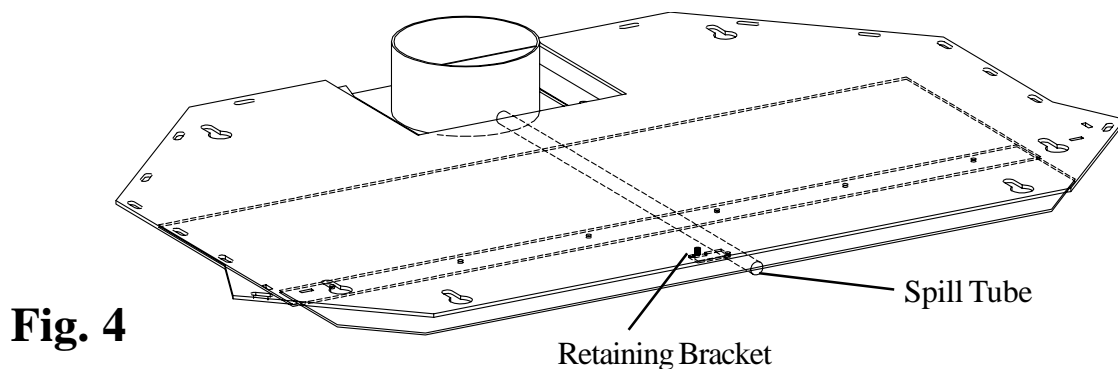

Fig. 4
1. Before installing the insert, attach the spill tube extension. Pull tube towards front of stove then slightly to the right to unhook locking bracket (see Fig. 4).